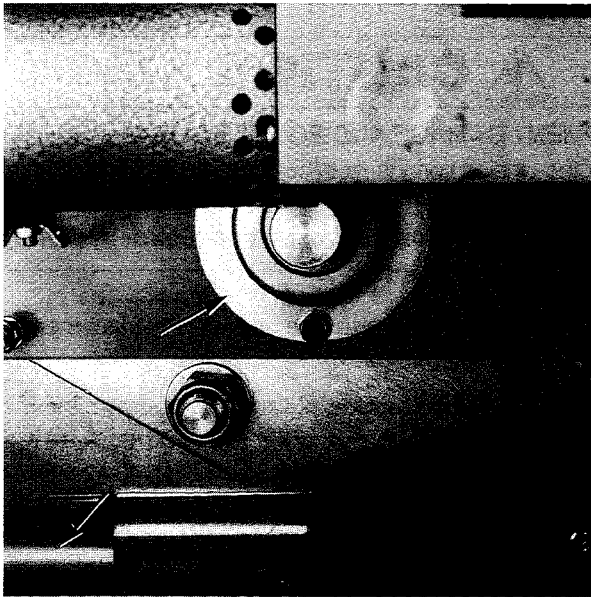

Figure 38: Shock absorber and bearing cover
9. Remove the cotter pin from the shock absorber axle (figure 38). Remove the axle from the rear, and drop the shock absorber down out of the way. Note the position of the spacers for later reinstallation.
11. Remove the bearing cover (figure 38) by removing the three mounting screws; remove the bearing and spacers. Note the number and position of the spacers for later reinstallation.